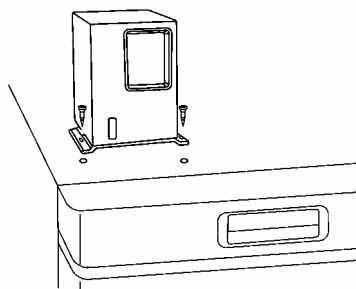

Fig. 2
2. To remove the lamp cover, hold the both sides of the cover with flexure and push it toward. (Fig. 2)
2. Remove 2 (outside) of 4 screws on the front left of the top panel. Fix the recorder to the top panel by using the 2 screws as shown in Fig. 2.